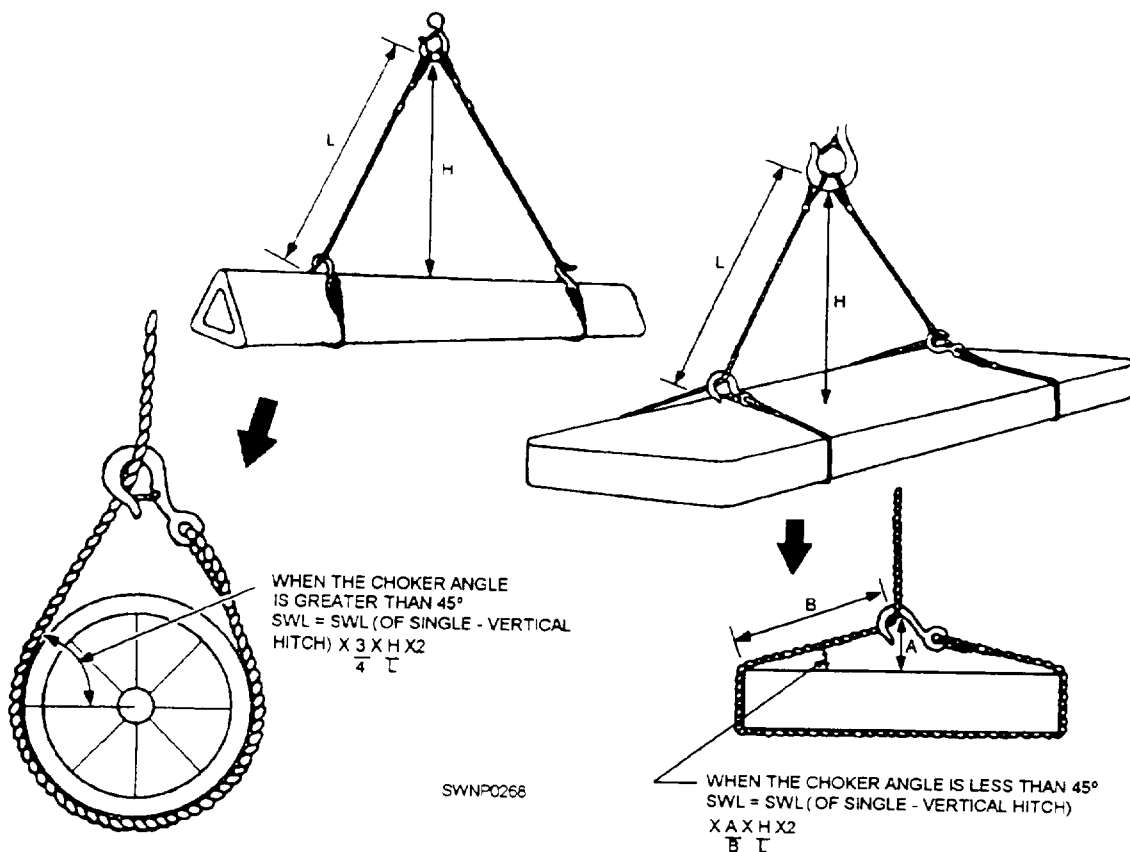

Figure 6-21.—Determination of double-choker hitch sling capacity.
**Double-choker hitch** (fig. 6-21):